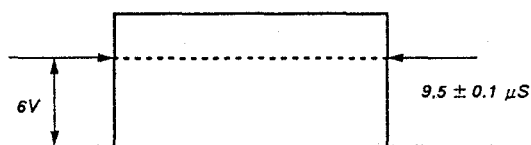

Fig. 2
4. Observe the anode of DS16 or TP300 with the oscilloscope and adjust **H-BLK** to obtain the waveform in Fig. 2.